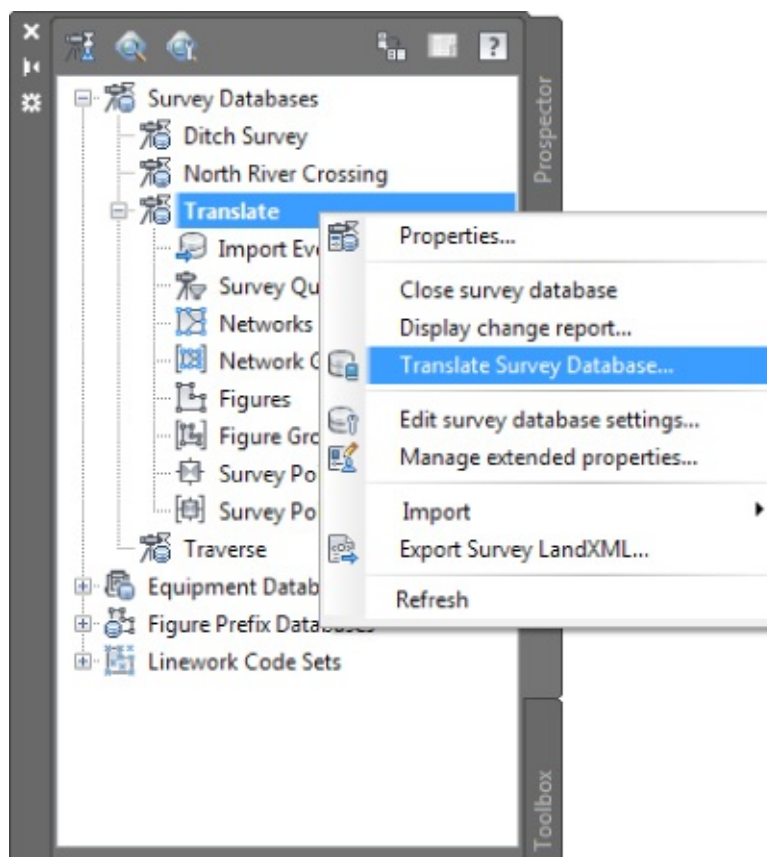

Figure 2.29 The elusive yet indispensable Translate Survey Database command
Often, it is necessary to edit the entire survey network at one time. For example, rotating a network to a known bearing or azimuth from an assumed one happens quite frequently. To find this hidden gem of functionality, go to **Toolspace > Survey tab > Survey Databases**, right-click the name of the database you wish to modify, and select **Translate Survey Database**, as shown in Figure 2.29.
15. In the Toolspace > Survey tab, right-click the name of the survey database and select Translate Survey Database, as shown earlier in Figure 2.29.